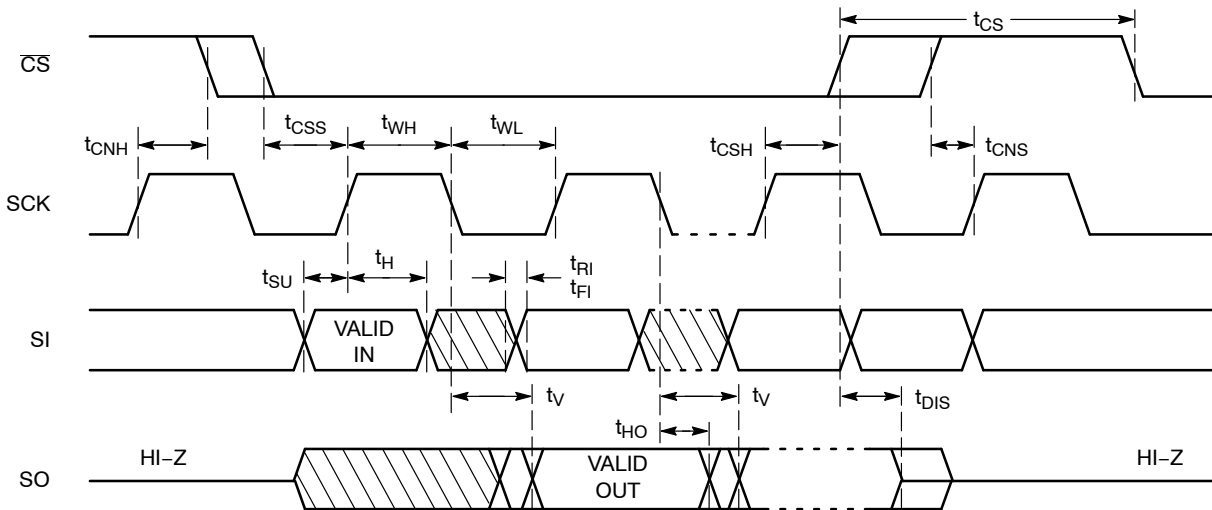

Figure 2. Synchronous Data Timing
7. **All Chip Select (CS) timing parameters are defined relative to the positive clock edge (Figure 2). t_{CSH} timing specification is valid for die revision C and higher. The die revision C is identified by letter "C" or a dedicated marking code on top of the package. For previous product revision (Rev. B) the t_{CSH} is defined relative to the negative clock edge.**
After a high to low transition on the $\overline{\text{CS}}$ input pin, the CAT25080/160 will accept any one of the six instruction op-codes listed in Table 9 and will ignore all other possible 8-bit combinations. The communication protocol follows the timing from Figure 2.